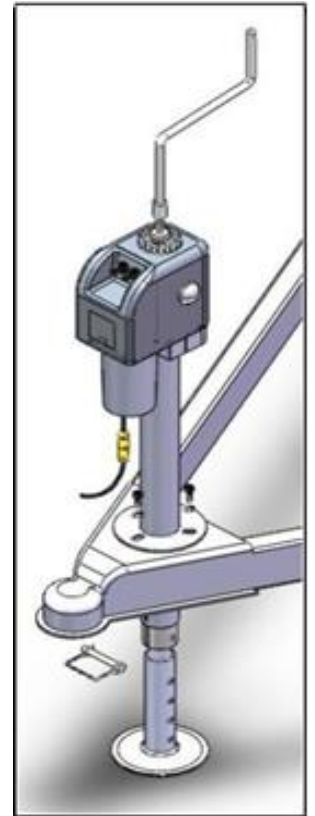

Fig 1
4. Insert the electric jack into the jack hole, aligning the bolt holes so the motor housing is facing forward as shown in Fig 1.
5. Secure the jack with three (3) grade 5, 3/8"-16 UNC bolts and washers. Place the star washers between the flat washers and mounting plate as shown in Fig 1. The star washers are intended to penetrate through the paint on the mounting plate to ensure direct metal to metal contact. Bolts should be tightened to 15-20 ft-lb.